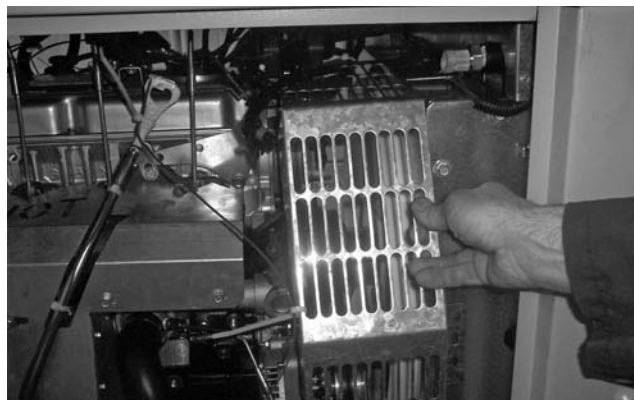

Figure 6
5. Remove the 10mm bolts from both fan housing guards on the radiator assembly (Figure 6).